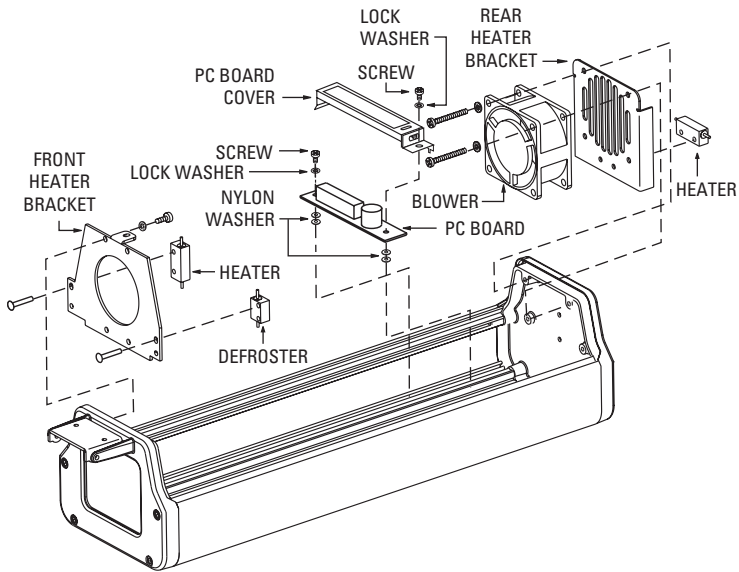

Figure 1. Blower Kit Installation in Enclosure with Rear Heater
- b. Place the blower against the rear heater bracket, and attach using the screws and lock washers provided (refer to Figure 1). Be sure the arrow on the blower housing is pointing toward the viewing window.